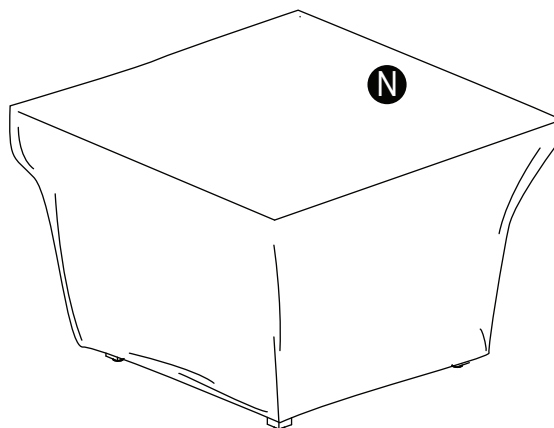

Figure 11
12. Cover the fire pit with the Weather Cover (N) when not in use to protect it from the elements or when fire pit is cool COMPLETELY after the use (see Figure 11).